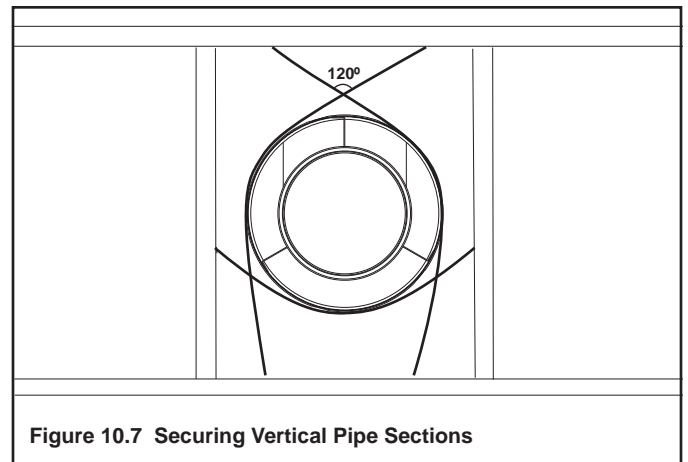

Figure 10.7 Securing Vertical Pipe Sections
- Vent supports or plumbers strap (spaced 120° apart) may be used to support vent sections. See Figures 10.7 and 10.8.